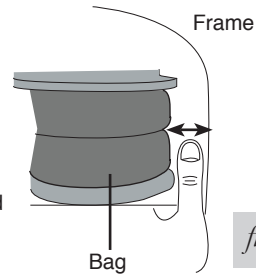

fig. 13
6. Align the air spring uniformly between the upper and lower brackets and check the air spring alignment (fig. 13).